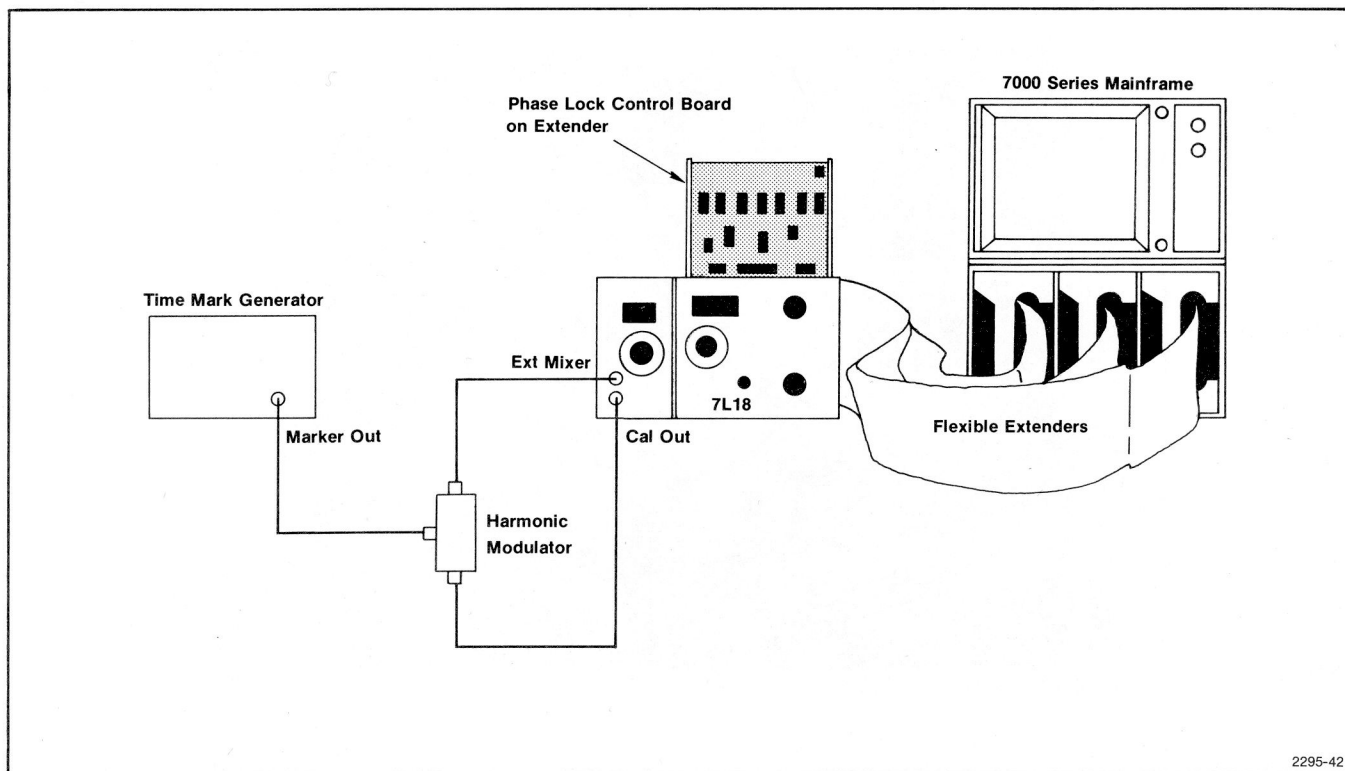

Fig. 4-34. Test Setup for Calibrating Phase Lock Control.
The Phase Lock module must be operative and the Phase Lock Logic Control module on an extender. Test setup is shown in Fig. 4-34. This procedure checks beat-note levels into the Phase Lock Control, sets the loop gain and the 50 kHz span for phase lock operation.
i. Apply the CAL OUT signal through the Harmonic Modulator to the RF INPUT so the Calibrator signal is modulated with 20  $\mu$ s markers from the Time-Mark Generator (see Fig. 4-34).